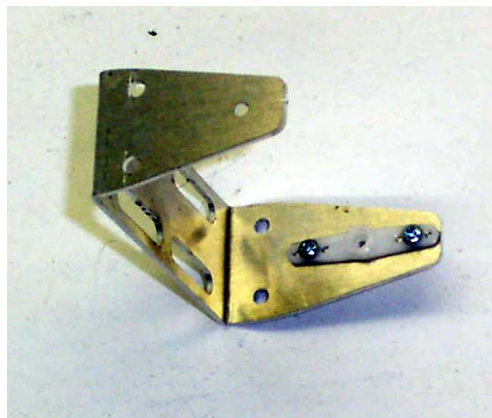

Figure 2
2. Next mount the servo arm from the miniature servo on the scanner arm as shown in Figure 2. Use #2-56 x 5/16" screw and secure with a washer, lock washer and nut. The middle holes are drilled out to accept the #2 screws.